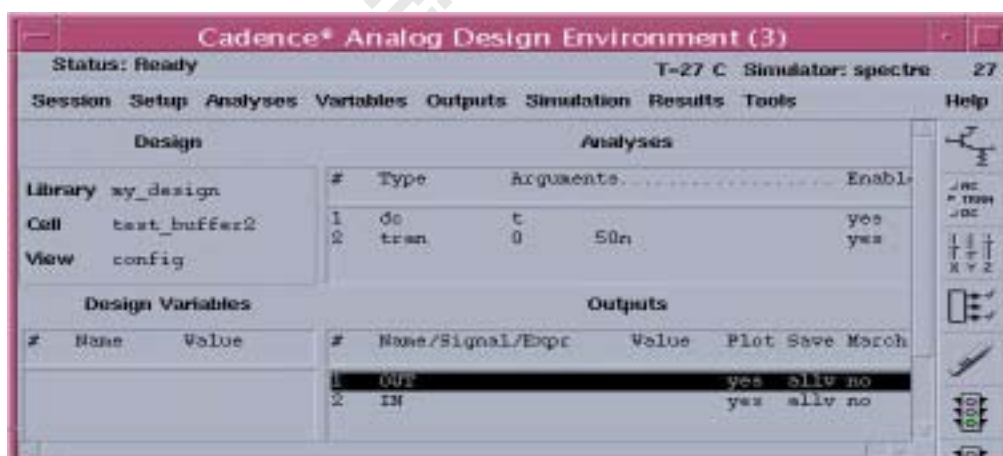

FIG. 42 Open Artist and use config view for post-sim
2. Open the Analog Artist environment and use the config view of the test fixture for simulation (fig 42). You can also output the simulation netlist to make sure the ‘av\_extracted’ view of our design in the configuration file is used for simulation rather than the ‘schematic’ view.